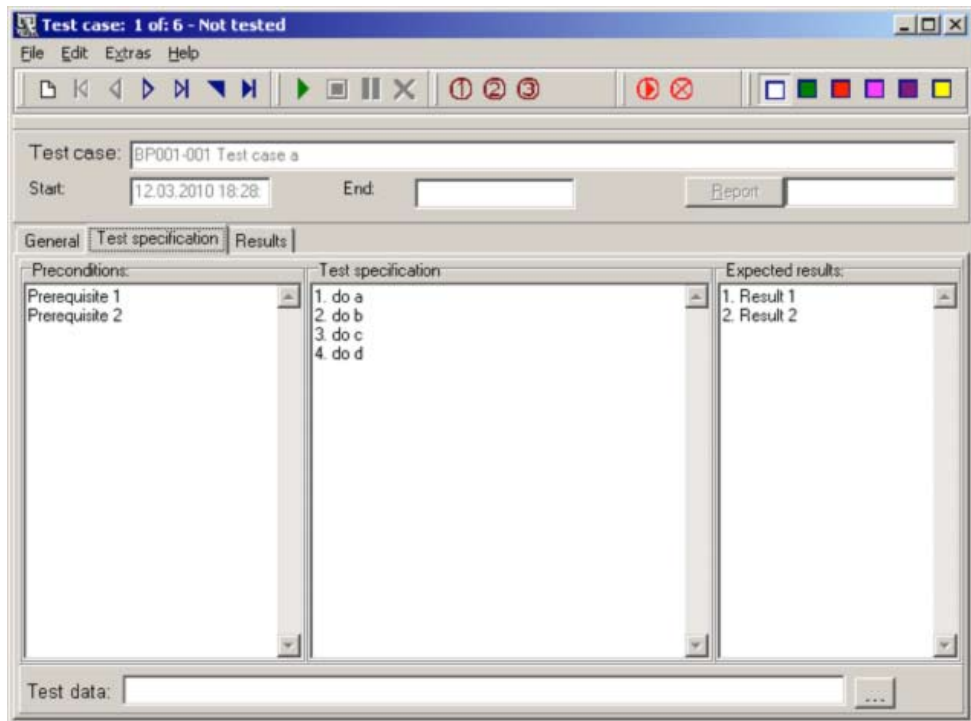

Figure 3
2. A window like Figure 3 pops up with the first (next) test case to be executed. Note that this window has been designed especially small in order to enable testers to see the application they are testing and the test specifications side by side.